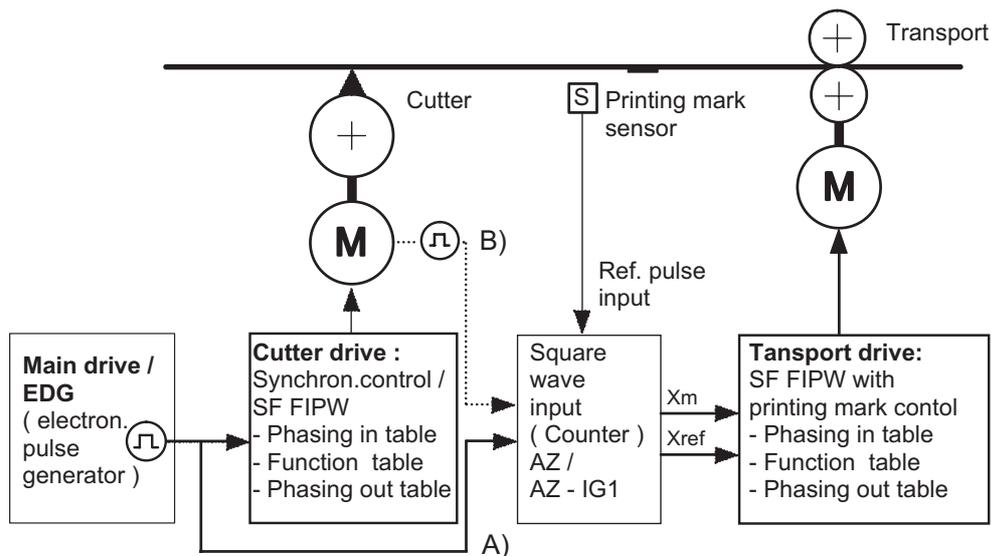

Figure 13: Possible drive arrangement for printing mark control
Figure 13 shows a possible arrangement with printing mark control in which three drives participate:
In printing mark control according to Figure 13, the feed of a transport drive is corrected with the aid of a printing mark on the feed material, in order to be able to cut despite deviations in the material length at a point defined by the printing mark (synchronous point; cf. Figure 15 or Figure 16).
- The drive (e.g. transport drive according to Figure 13) is controlled in the distance operating mode "cyclic table processing" (SFKMD-BA = 2) or "clocking in/out" (SFKMD-BA = 98) with integrated printing mark control (SFKMD fct, Bit0 = 1) (cf. Section 3.2.2.3). through the SF FIPW.
- The master axis of the transport drive is either a main drive (Figure 13, A) or the blade drive (Figure 13, B).
Before SF commanding "Start" the participating drives according to Figure 13 must be brought into a defined starting position. Here it is possible to proceed as follows: